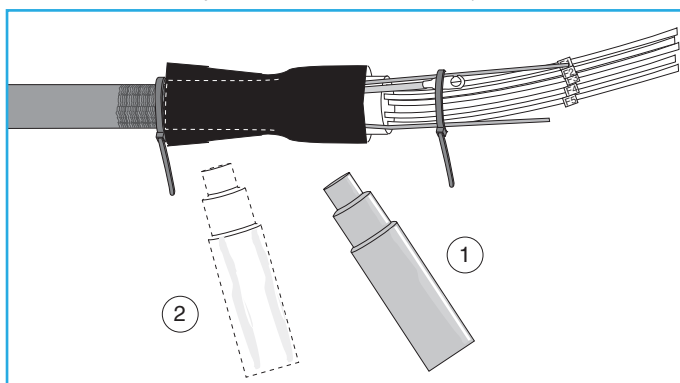

Figure 8.
7.3.11 Place the fibers from each distributor cap hole into a transportation tube, and slide the tube down into the hole. (Fig. 8)
7.3.13 Place a tie-wrap 1" below the ring cut. Slide the 4"-long black heat-shrinkable tube over the cable components and allow it to rest on the tie wrap. The top of the tube should be roughly 1/2" below the top of the funnel. (Figure 8)